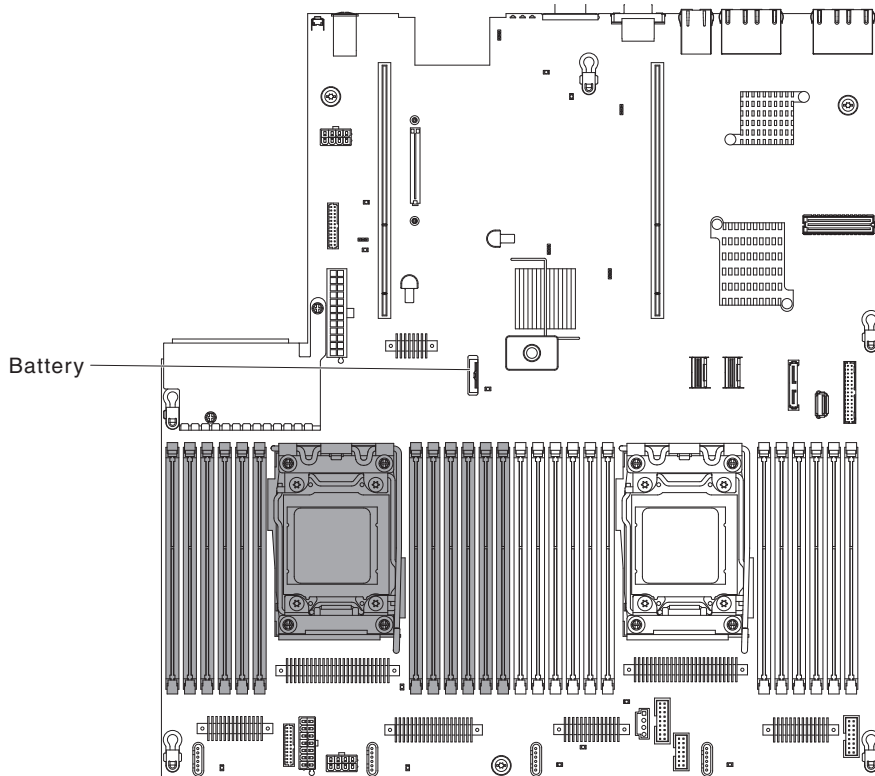

Figure 184. Location of the SAN Volume Controller 2145-DH8 CMOS battery holder
8. Locate the battery on the system board, as shown by Figure 184.